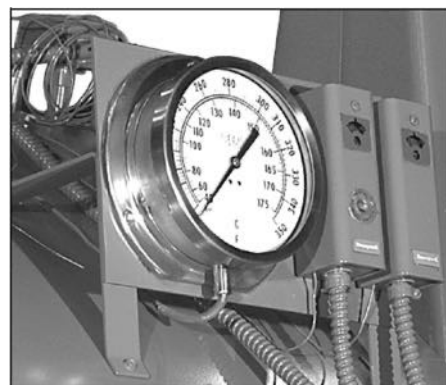

FIGURE 1-8. Water temp. gauge
1. Water Temperature Gauge (**Figure 1-8**): Indicates the boiler water temperature.